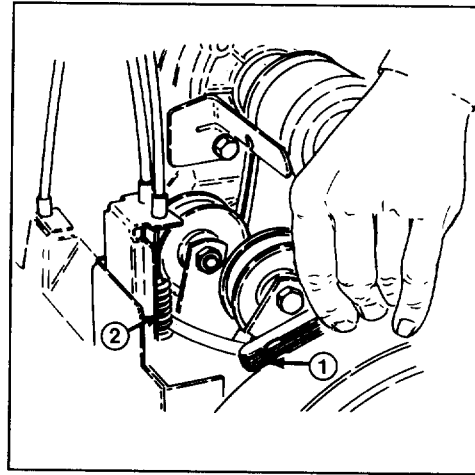

Figure 28
**3. CHECKING IMPELLER CABLE ADJUSTMENT**—Depress the auger/impeller control lever on the right hand grip. Hold the lever and insert a .010" (.25mm) feeler gauge between a coil in the center of the spring (Fig. 28). Adjust the cable to achieve .010" (.25 mm) gap between the coils.